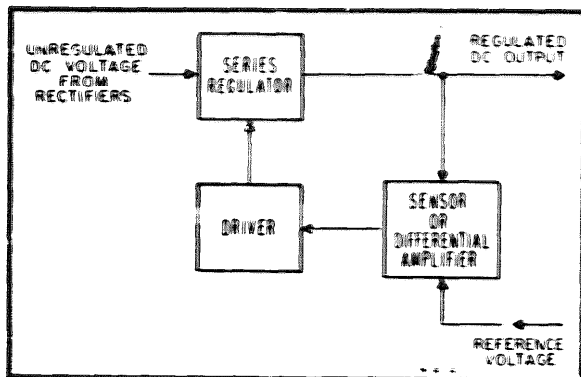

Figure 1-15. Regulated Power Supply Block Diagram
(2) Fig. 1-15 is a simplified block diagram of regulator used in the low-voltage supply. The series regulator acts as a variable resistance in the regulated output. A sensor (or differential amplifier) compares the output voltage with a reference voltage (dc return